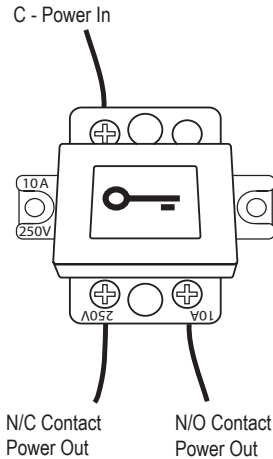

Fig. 1
3. Connect wires under appropriate terminals (Fig. 1).